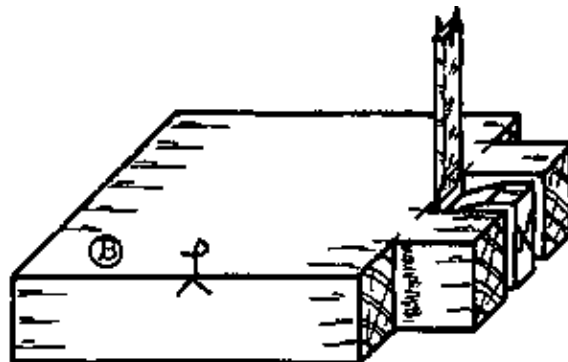

Fig. 6
– Chop out the waste by chiselling alternately vertically and then at an angle, making “V” cuts halfway through from each side (Figs. 6, 7, & 8).